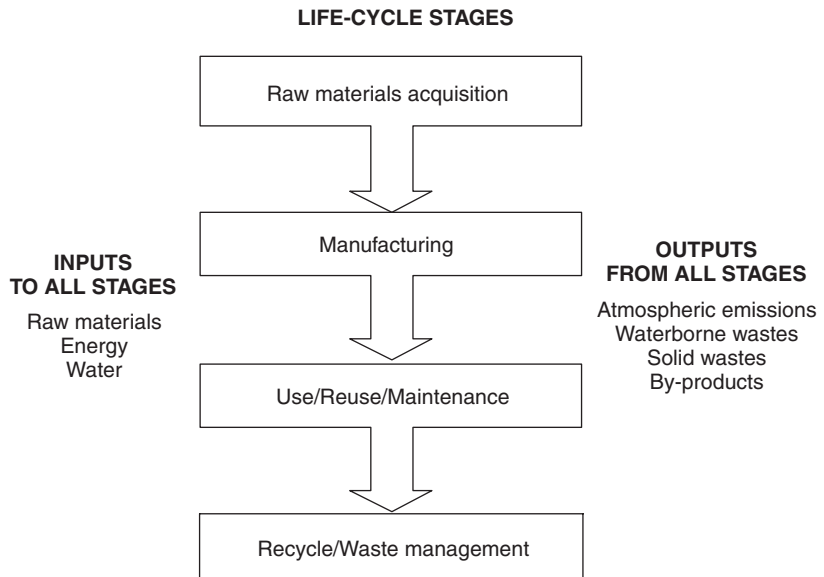

Figure 18.3
LCA allows us to study the flows of materials, energy and water throughout the life of a product (or a process such as fossil fuel combustion) as it now exists. It examines the environmental impacts at each point in its life, see Table 18.1 Once flows and impacts are understood, then both P² and DfE can more effectively come into play. LCA can be useful for examining a piece of paper, plastic bag, car, or a food item such as an apple. ▀ Look at the four life-cycle stages (Figure 18.3). (1) The impacts of acquiring the raw materials for the product. (2) The impacts of manufacturing it. (3) The impacts of using (reusing) and maintaining it. (4) The impacts of recycling or otherwise managing the product at the end of its useful life. For *each* of the four stages we analyze: